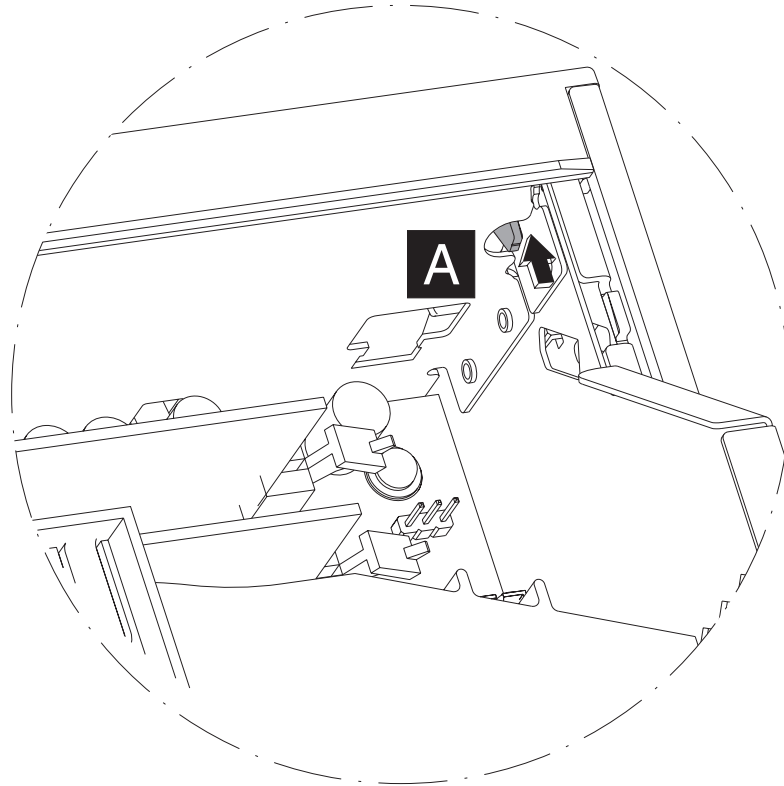

Figure 10. Locating the top cover release latch
4. Facing the rear of the system, use a screwdriver to lift the latch (**A** in Figure 10), while sliding the top cover toward you (toward the rear of the unit)